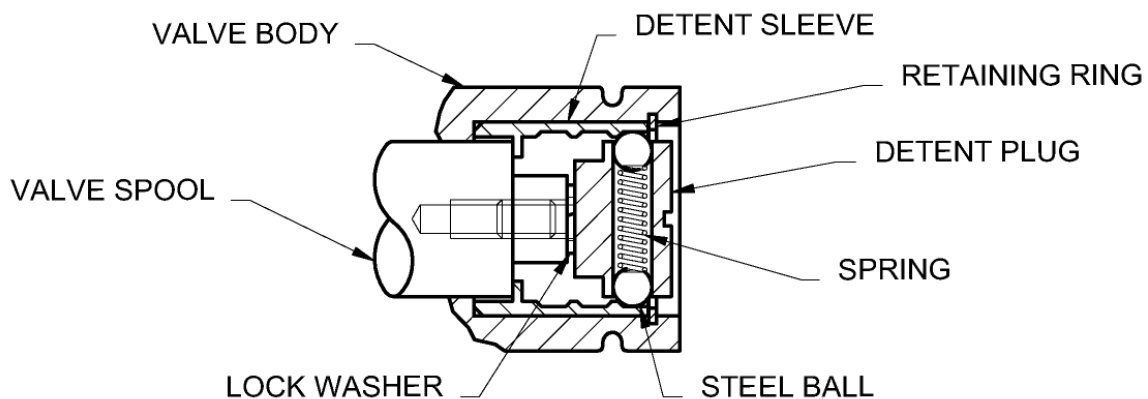

Figure 10-9
9. Insert a large screwdriver (or a 15/16" drag link socket) into the slot in the end of the detent assembly. Twist the detent assembly in a CCW direction to release it from the end of the valve spool. Remove the detent assembly making sure to not lose the two balls, spring and washer. (Refer to Figure 10-9).